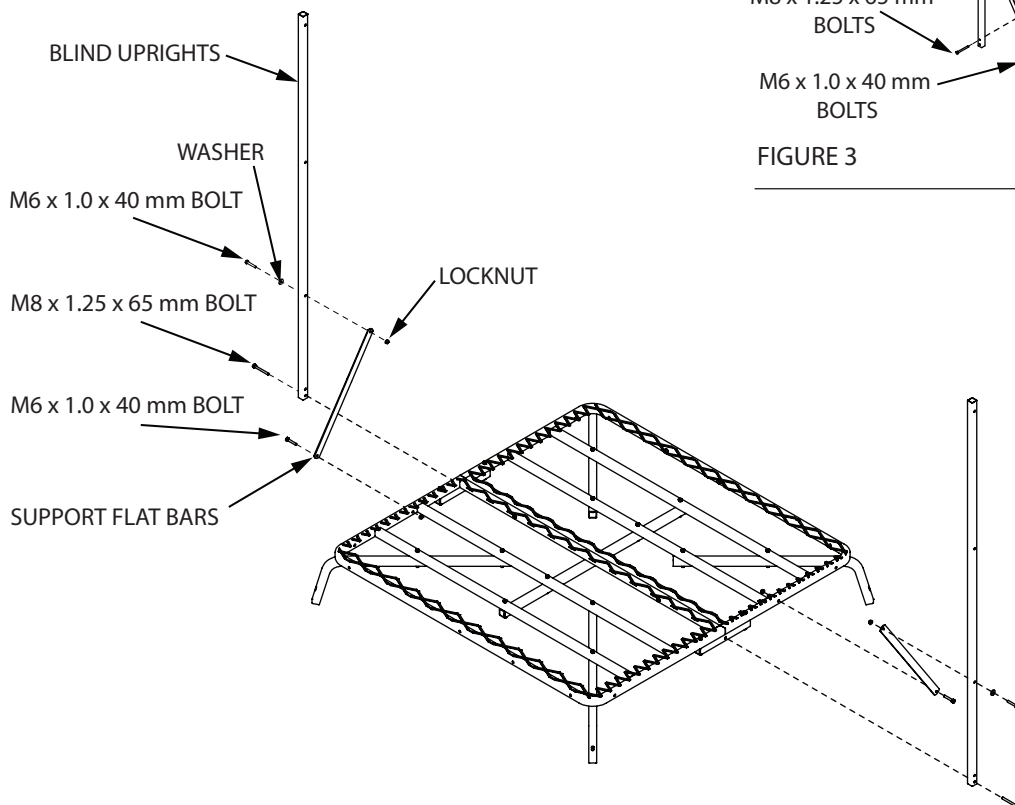

FIGURE 4
6. Attach remaining (2) blind uprights (TWR18) to the outside platform joiners using (2) provided M8 x 1.25 x 65 mm bolts and locknuts. **SEE FIGURE 4**